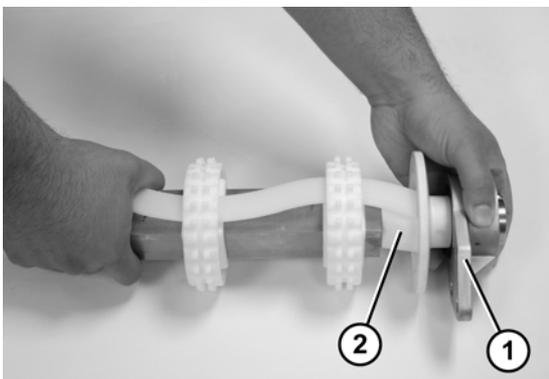

Figure 67
- Slide the 3 hole flange with bearing (Figure 67, item 1) and flanged puck (Figure 67, item 2) off the drive spindle.